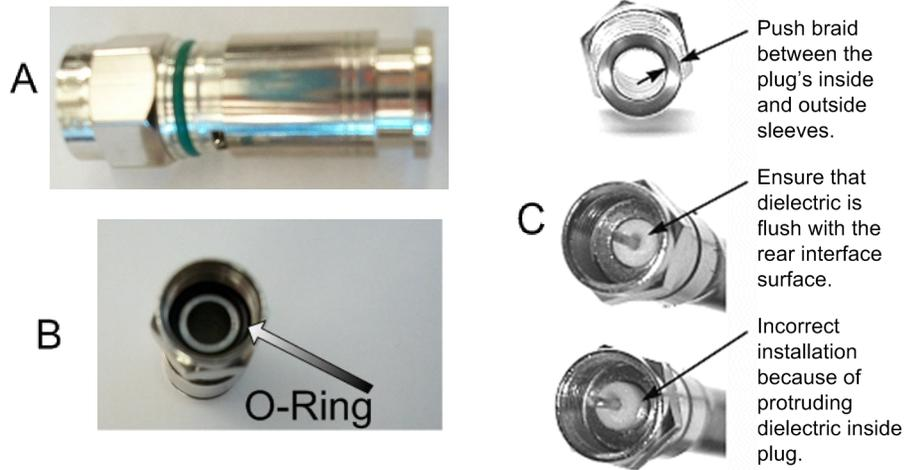

Figure B-4. Attaching the Compression fitting F-type Connector
8. Install the RG-6 connector compression sleeve, or mandrel, (top left (A) in Figure B-4) over foil and underneath the braid. A good, weatherproof outdoor connector mandrel should have a visible O-Ring (bottom right (B) Figure B-4).
NOTE: The white colored inner dielectric insulation should be flush with the inner rear surface of the connector. Refer to the picture on the right (C) in Figure B-4 for an RG-6/RG-11 termination.
NOTE: Since the RG-11 connector has a built-in center pin, ensure that the coax center pin makes contact to the internal seizing pin of the connector. Refer to Figure B-4.